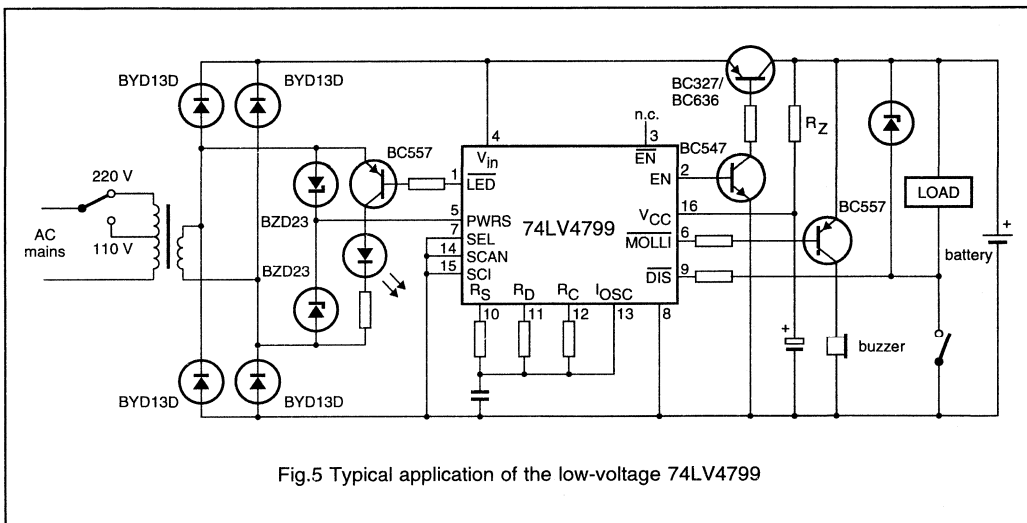

Fig.5 Typical application of the low-voltage 74LV4799
At one battery cell applications, the drive of the ENABLE output ($\overline{\text{EN}}$) is insufficient to drive directly the external bipolar PNP load transistor. Consequently the inverse signal is present on the ENABLE output (EN). An extra bipolar NPN shall be tied to the EN output that drives the bipolar PNP load transistor now. For more information see Fig.5.